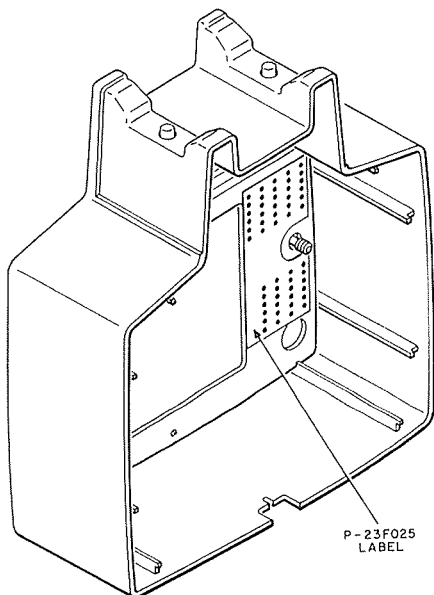

Fig. 12—Connecting Block Wiring Label
3.08 Since individual terminals are not designated on the quick-connect blocks, a label is provided on the inside of the housing as a wiring guide (Fig. 12). Terminals 1-30 are on the upper block and 31-54 are on the lower block. Terminals 51-54 are spare. Use a 714B tool to terminate conductors.